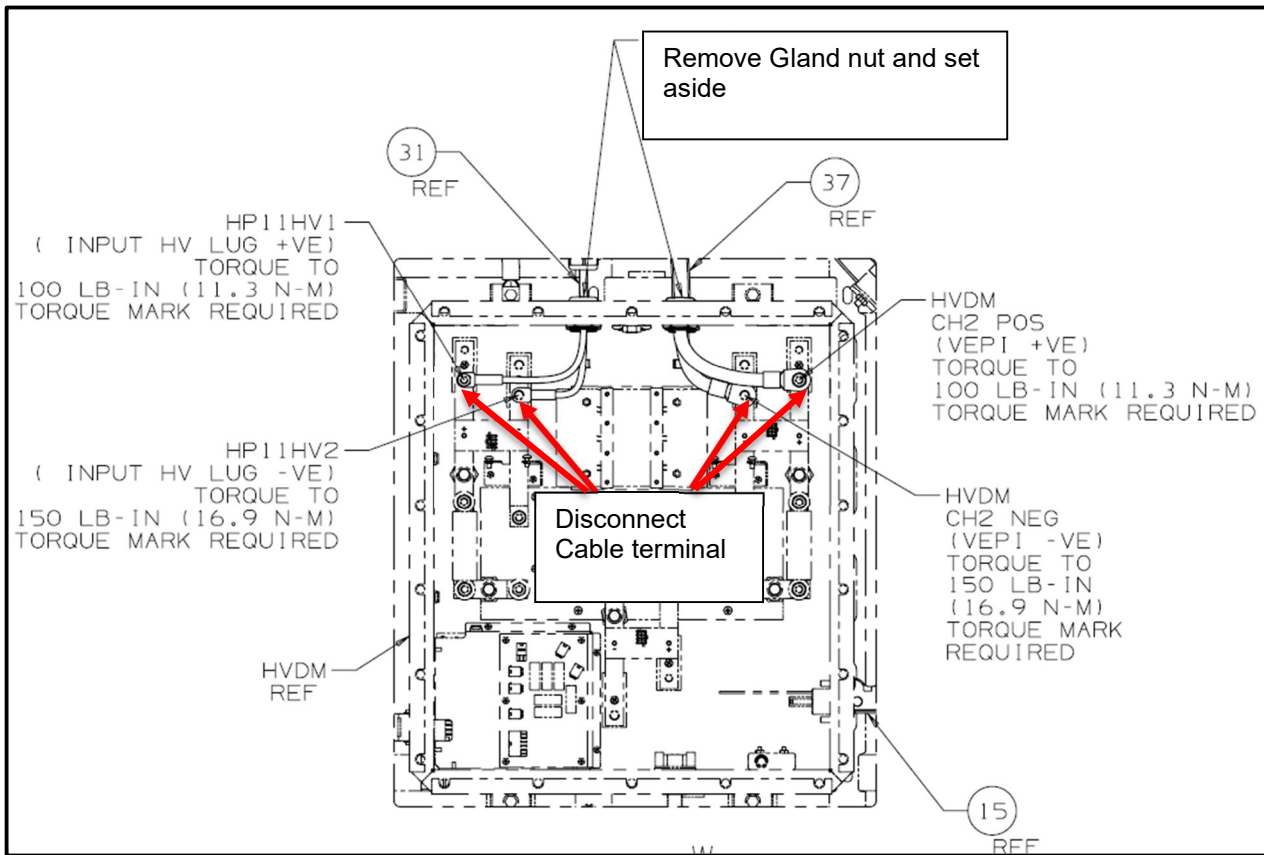

Figure 4: Disconnect cable location reference.
Remove Gland nuts from inside box and remove cable item 31 and 37 from HVDM box. See Figure 4.